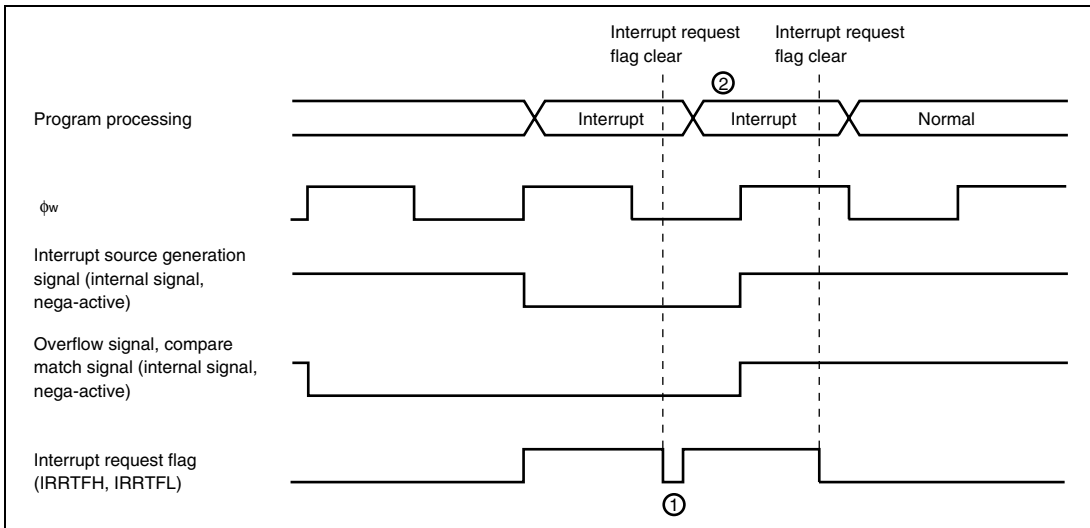

Figure 9.6 Clear Interrupt Request Flag when Interrupt Source Generation Signal is Valid
Clear Timer FH, Timer FL Interrupt Request Flags (IRRTFH, IRRTFL), Timer Overflow Flags H, L (OVFH, OVFL), and Compare Match Flags H, L (CMFH, CMFL): When $\phi_w/4$ is selected as the internal clock, “Interrupt source generation signal” will be operated with ϕ_w and the signal will be outputted with ϕ_w width. And, “Overflow signal” and “Compare match signal” are controlled with 2 cycles of ϕ_w signals. Those signals are outputted with 2 cycles width of ϕ_w (figure 9.6)
In active (high-speed, medium-speed) mode, even if you cleared interrupt request flag during the term of validity of “Interrupt source generation signal”, same interrupt request flag is set. (1 in figure 9.6) And, the timer overflow flag and compare match flag cannot be cleared during the term of validity of “Overflow signal” and “Compare match signal”.
For interrupt request flag is set right after interrupt request is cleared, interrupt process to one time timer FH, timer FL interrupt might be repeated. (2 in figure 9.6) Therefore, to definitely clear interrupt request flag in active (high-speed, medium-speed) mode, clear should be processed after the time that calculated with below (1) formula. And, to definitely clear timer overflow flag and compare match flag, clear should be processed after read timer control status register F (TCSR F) after the time that calculated with below (1) formula.